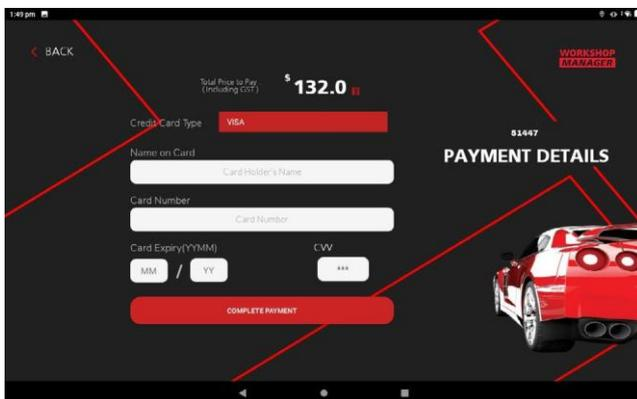
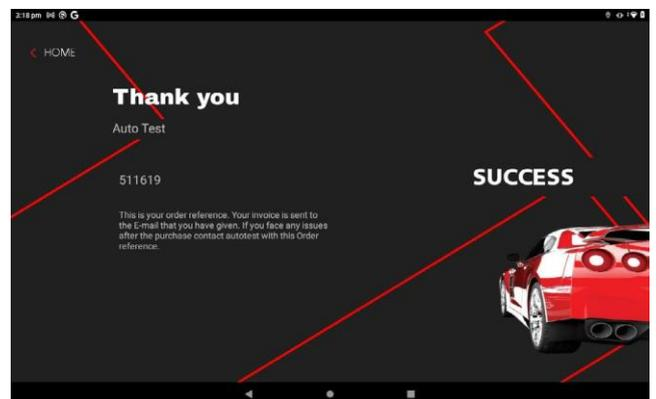

Figure 18
Figure 19
Step 4: Enter your credit card details and complete the payment. (Figure 18). Once the purchase is successfully processed and accepted, a prompt will appear to confirm that your Brake Pro License is now successfully activated (Figure 19).